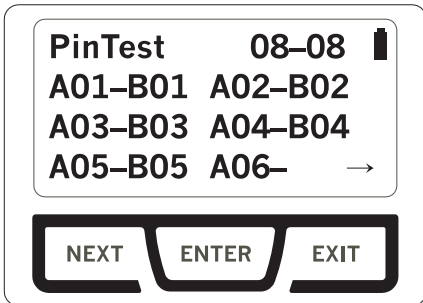

figure 2
- A. PinTest is the main test function of INNOTEST. Press ENTER for the INNOTEST PinTest function to detect pin-to-pin connectivity. Please refer below figure 2